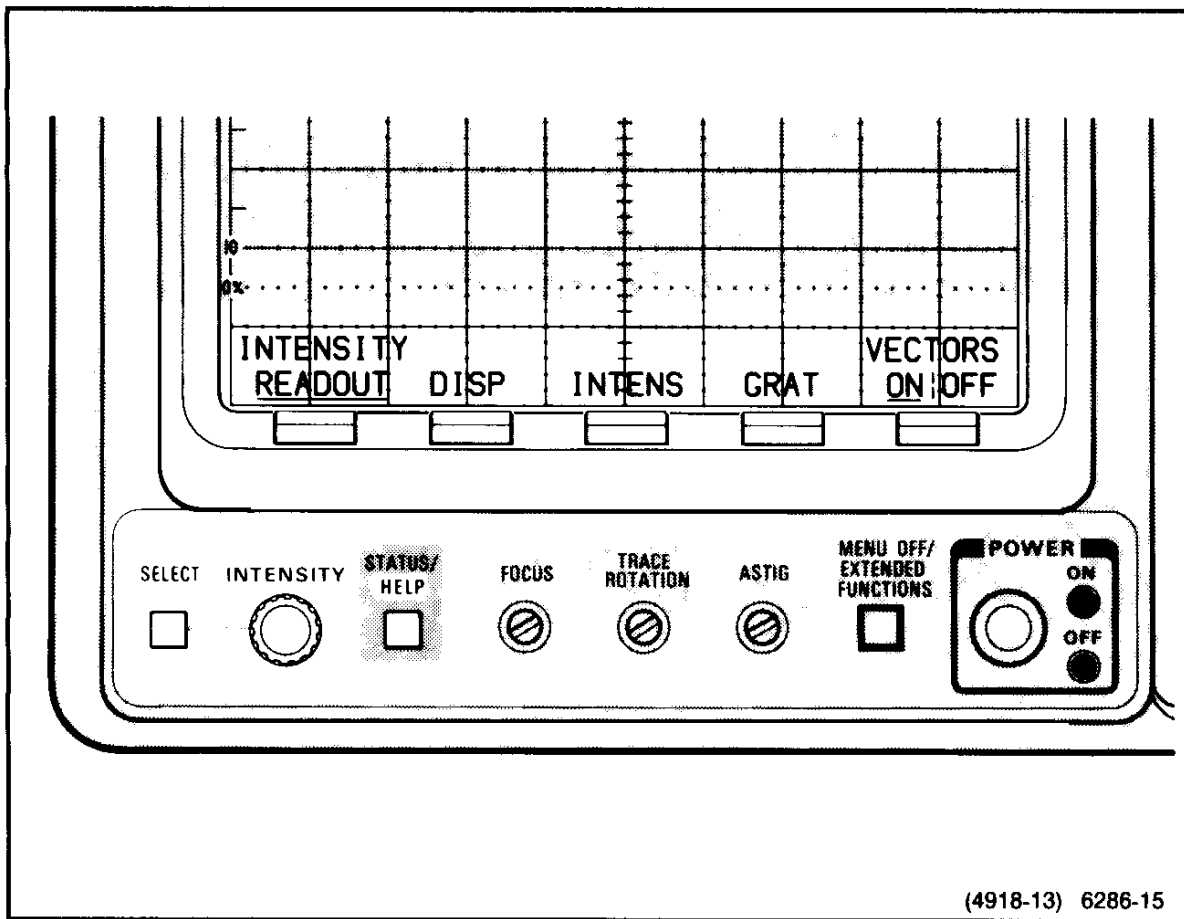

Figure 2-3. SELECT menu and menu control buttons.
4. Press the SELECT button to display the INTENSITY control menu. Figure 2-3 illustrates the SELECT menu entries and the position of the Menu Control buttons.